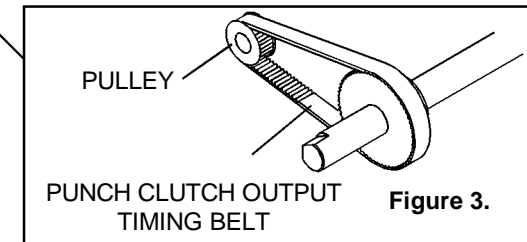

Figure 3.
- 6.4 the 2 setscrews in the Punch Output Drive Timing Belt Pulley (Figure 3).
7. Slide the 2 Drive Shafts towards the front of the machine and remove the Timing Belt (Figure 3).
6.4 the 2 setscrews in the Punch Output Drive Timing Belt Pulley (Figure 3).
- Move the Punch Clutch Output Timing Belt from the Pulley. (Figure 3).
- 12.3 Punch Clutch Output Timing Belt (Figure 3).